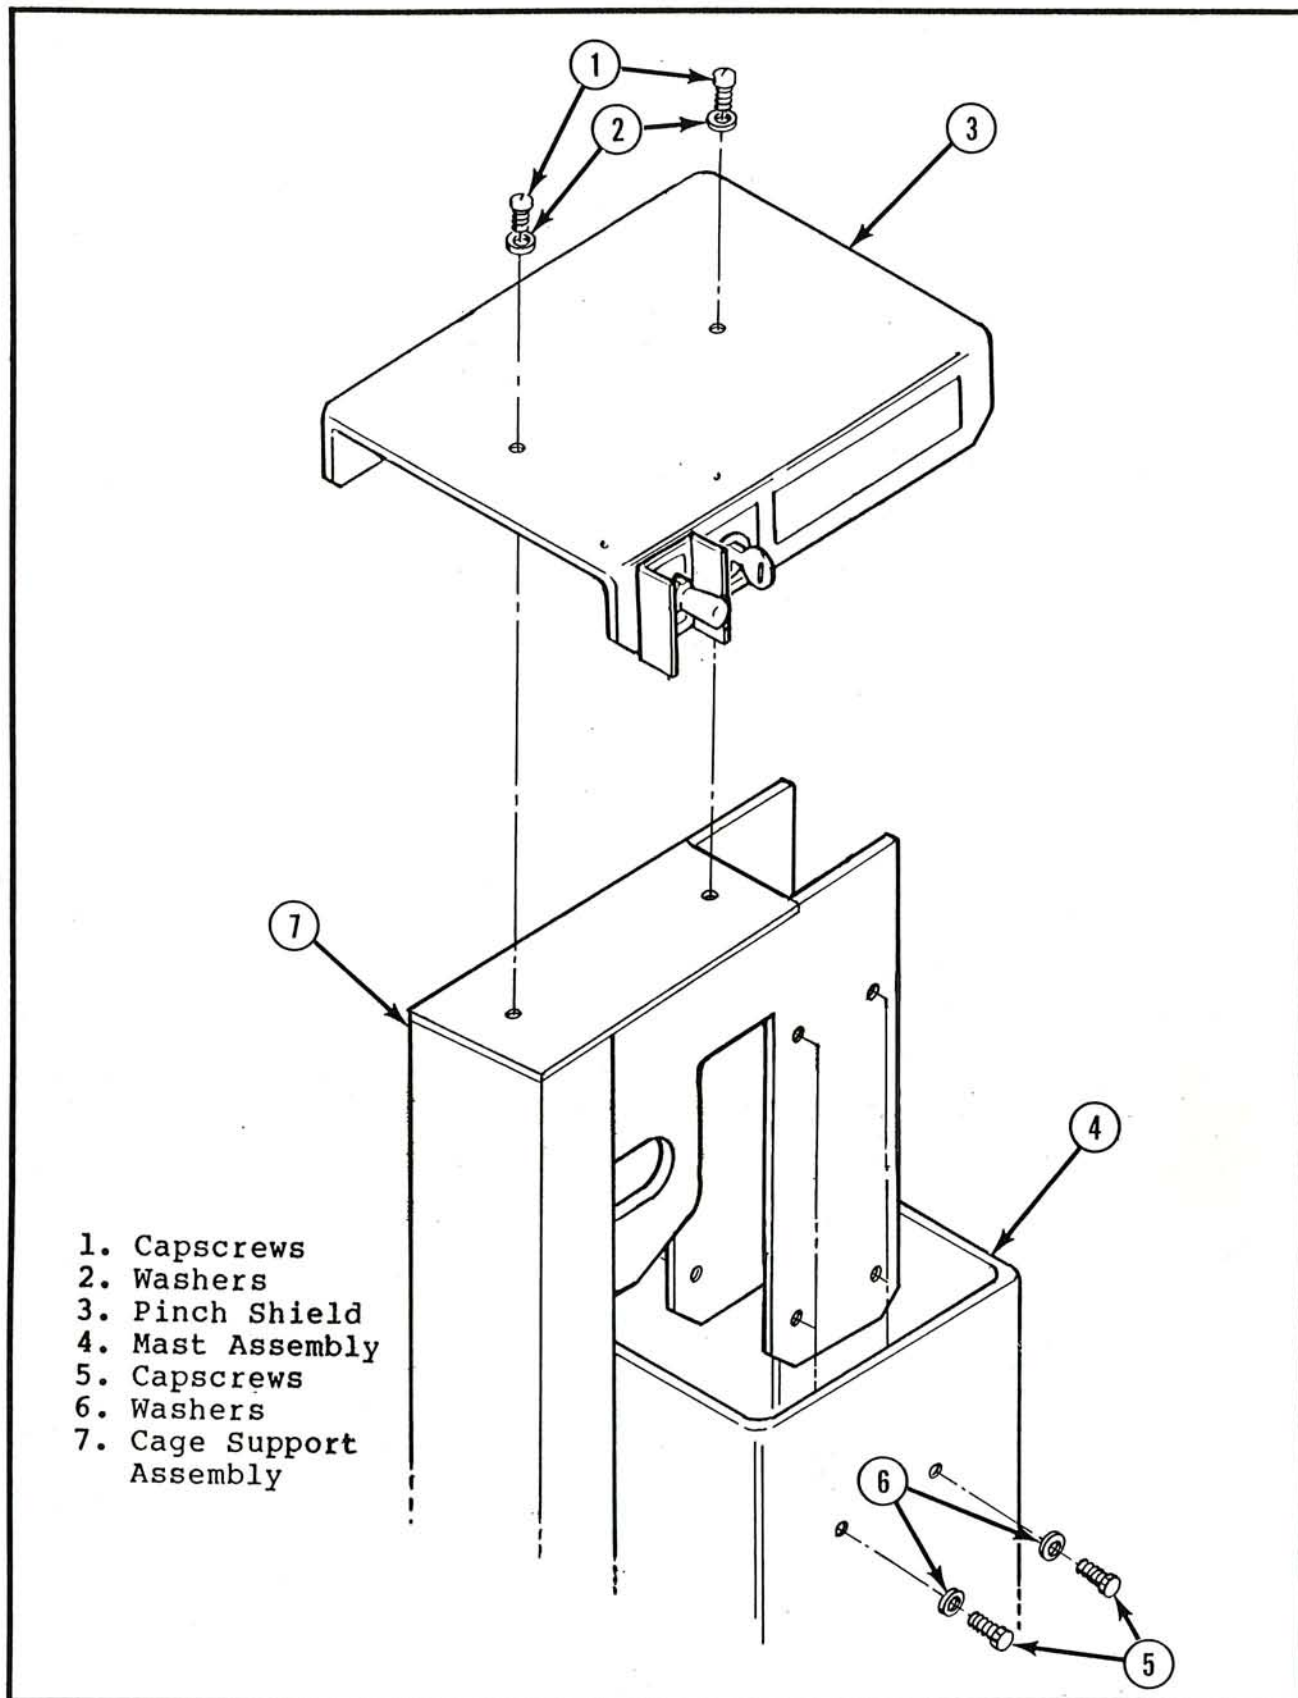

Figure 5-8. Cage Support Assembly Removal/Installation
b. Cage Support Assembly Removal (Figure 5-8).
(1) Remove the button head capscrews (1) and flat washers (2). Set aside the Pinch Shield (3).
(2) Extend the Mast Assembly (4) slightly to allow access to the cage support mounting capscrews. Remove capscrews (5) and flat washers (6) to release the Cage Support Assembly (7).
(13) Feed the 5th Stage lifting chains over the sheaves on the top of the 4th Stage Mast (11) and reconnect the chains to the chain anchors with chain pins (4) and cotter pins (3).
(14) Route the 5th Stage sequence strap (2) through the guide on the bottom of the 4th Stage Mast and up to the top strap retainer (32) between the 3rd and 4th Mast Stages and attach with clamp using strap clamp bolts (1).
(15) Install cylinder assembly per paragraph 5-17.
b. Cage Support assembly installation (See Figure 5-8).
(1) Install Cage Support Assembly (7) and secure with capscrews (5) and flat washers (6).
(2) Ensure Key Switch is **OFF** and install pinch shield (3) with flat washers (2) and capscrews (1).